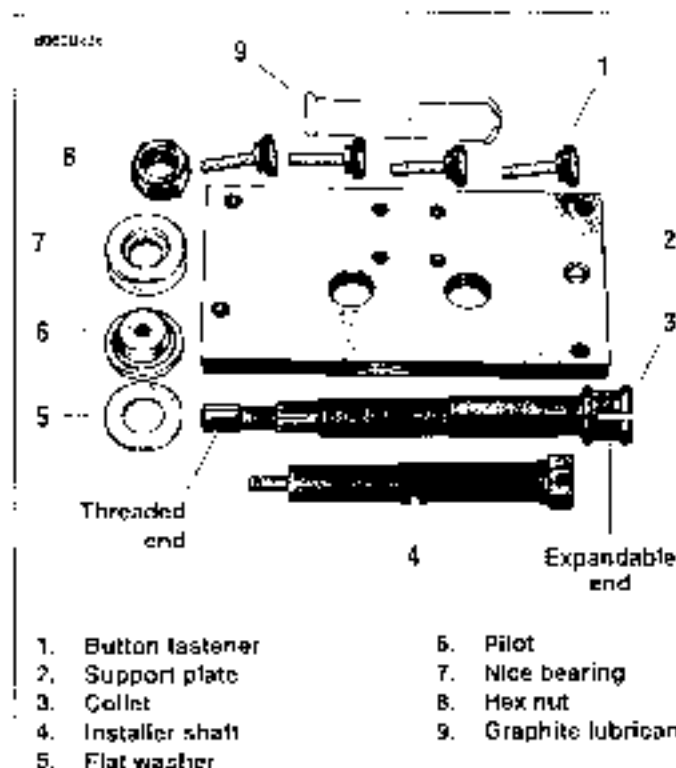
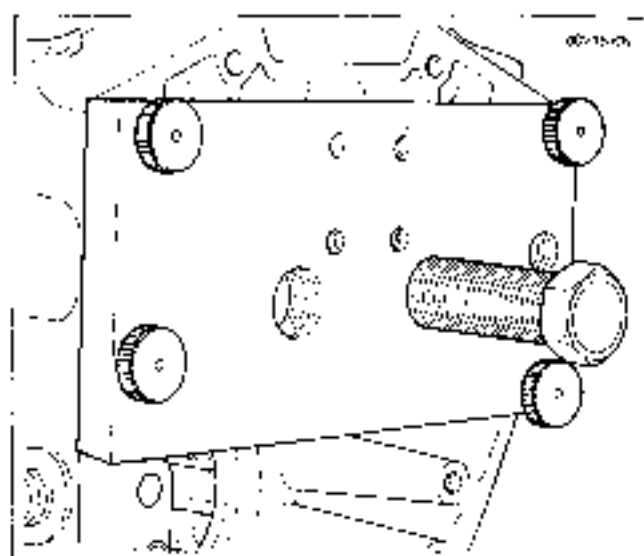

Figure 3-144. Camshaft Needle Bearing Remover/Installer (Part No. HD-42325)
Figure 3-146. Installer Shaft Installation
2. See Figure 3-144. Remove four button fasteners (1) from threaded holes in support plate (2), if installed.
3. Sparingly apply graphite lubricant (9) to threads of collet (3) to prolong service life and ensure smooth operation.
7. Center expandable end of collet in bearing bore and slide Nice bearing (7) and flat washer (5) on threaded end. Start hex nut (8) on threaded end.
2. See Figure 3-144. Sparingly apply graphite lubricant (9) to threads of installer shaft (4) to prolong service life and ensure smooth operation.
3. Thread installer shaft into stamped side of support plate (2) until threads begin to emerge from opposite side.
4. Install pilot (6) at end of installer shaft.
6. See Figure 3-146. Aligning two large holes in support plate with needle bearing bores, hang right side of plate on ring down in crankcase flange.